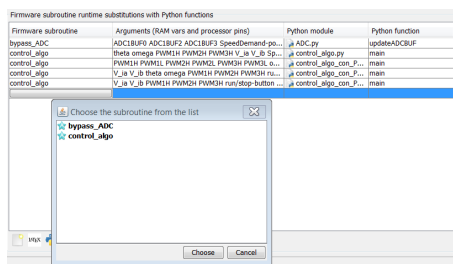

Figure 4.5: Select the alias of the firmware function to be substituted, and press Choose to confirm the selection or cancel to discard it.
- the alias of the firmware function to be substituted, see Fig. 4.5;